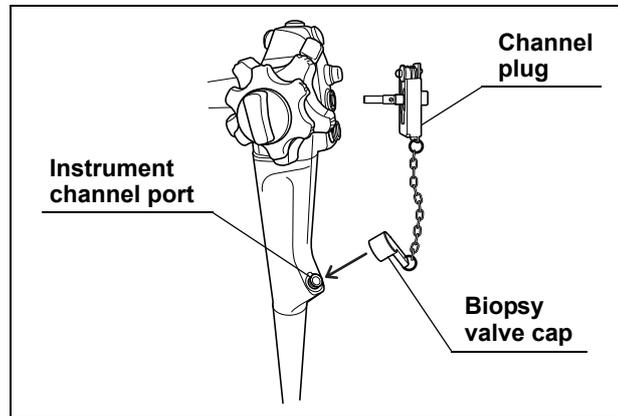

Figure 5.27
3. Attach the channel plug (MH-944) and the injection tube (MH-946) to the endoscope and immerse in the disinfectant solution. (See Figures 5.27, 5.28, and 5.29)
1. Attach the channel plug (MH-944) and the injection tube (MH-946) to the endoscope. (See Figures 5.27 and 5.28)